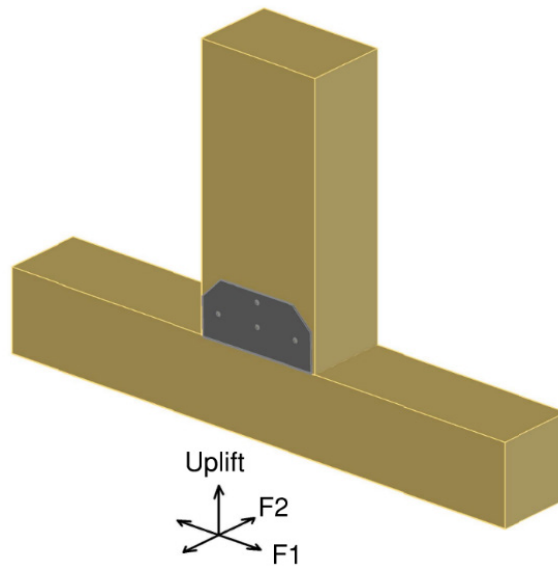

Figure 5. Post Cap/Base Load Orientations
5. F1 direction is parallel to substrate member. F2 direction is perpendicular to substrate member. See Figure 5 for more detail.